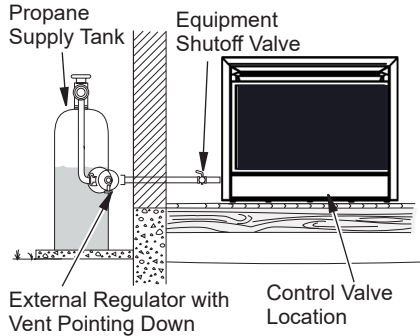

Figure 17 - Checking Gas Joints for Propane Gas
3. Check all joints from gas meter to equipment shutoff valve for natural gas or propane supply to equipment shutoff valve for propane (see Figure 17 or 18). Apply a noncorrosive leak detection fluid to all joints. Bubbles forming show a leak.
4. Check all joints from equipment shutoff valve to control valve (see Figure 17 or 18, page 14). Apply a noncorrosive leak detection fluid to all joints. Bubbles forming show a leak.